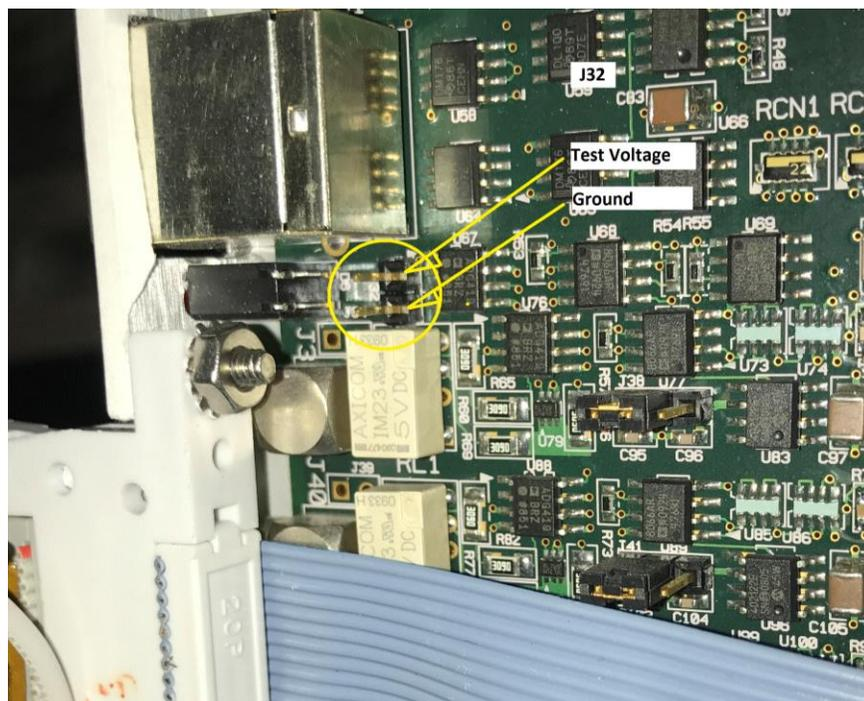

Figure VIII.1 Location of Test Voltage test point, J32.
3. Monitor J32 with a voltmeter. See Figure VIII.1.